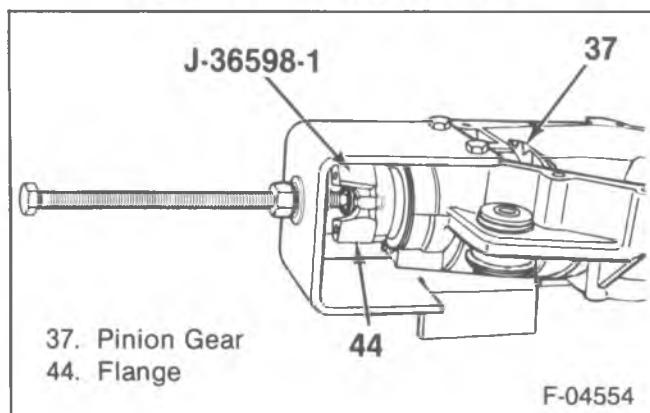
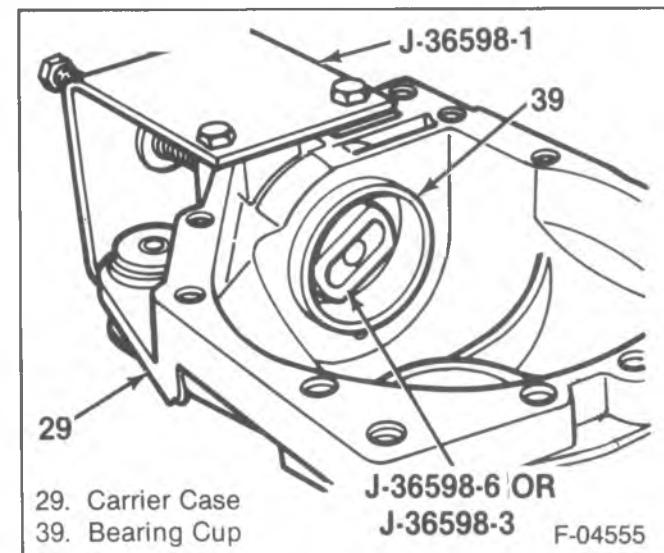
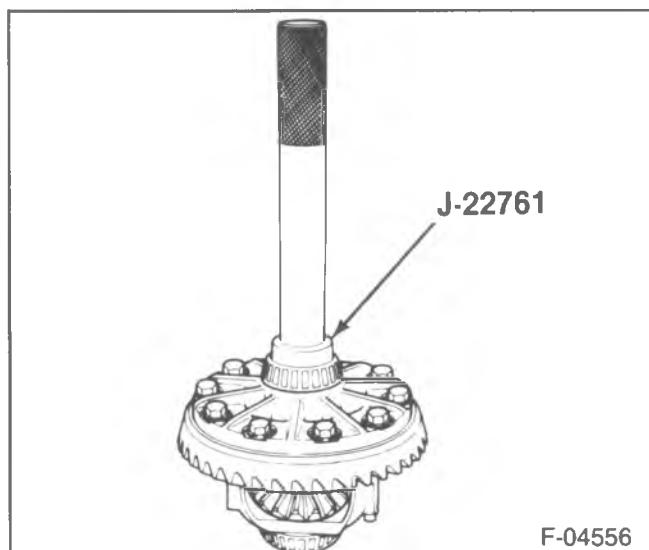

Figure 94—Removing the Inner Pinion Shaft
Figure 95—Removing the Inner and Outer Pinion Bearing Cups
Figure 96—Installing the Differential Side Bearing
17. Pinion (37), spacer (40), outer pinion bearing (41) using J-36598-1 (figure 94).
18. Inner pinion shaft bearing (39) shim (38) using J-8612-B (K-1-2) or J-22912-01 or J-36606 (K-3).
19. Inner pinion bearing cup (39) by pushing it out using J-36598-6 and J-36598-1 (figure 95).
20. Seal (42) and outer pinion bearing cup (41) using J-36598-1 and J-36598-3 (figure 95).
21. The components such as the roll pin (36), shaft (52), pinion gears (56), thrust washers (55), side gears (54) and thrust washers (53) can not be serviced on K-1-2 models.
22. Bolts (34). There are 10 left hand bolts.
23. Ring gear (37).
24. Side bearings (33) using J-22888 and J-8107-2 (figure 96).
- Ring gear (37) onto the differential case (35).
- Bolts (34). Always use new bolts; never reuse the old bolts.
- Bolts (34) alternating in progressive steps to 120 N·m (88 ft. lbs.).
- Left hand bolts (34).
- Side bearings (33) using J-22761 (K-1-2) or J-29710 (K-3) (figure 96).